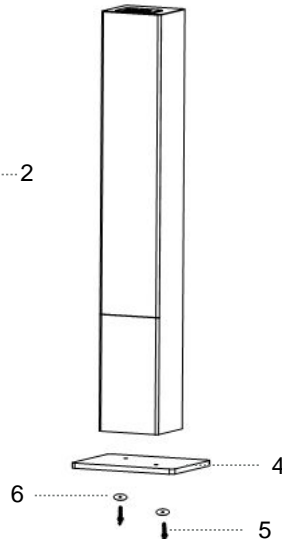

Figure 2
- 2.Assemble the wooden base to the main body with the supplied screws and washers as Fig.2 above.